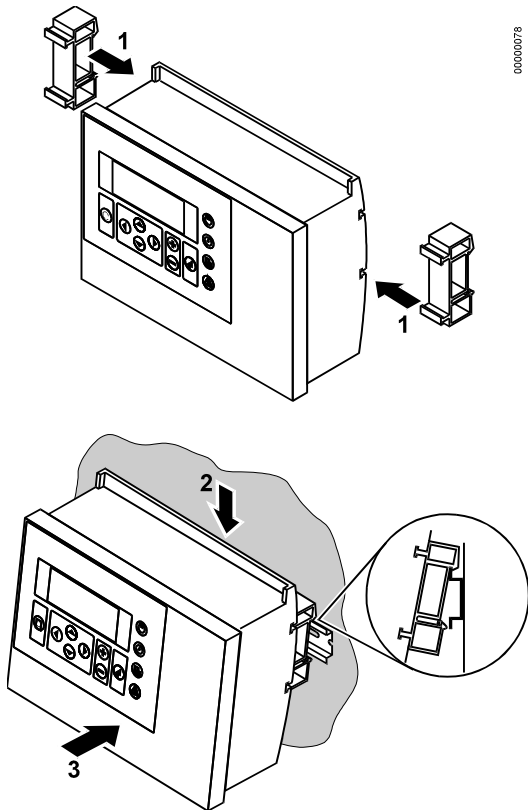

Fig. 12. Cabinet mounting with MMI
1. Plug in the application module as shown in Fig. 12.